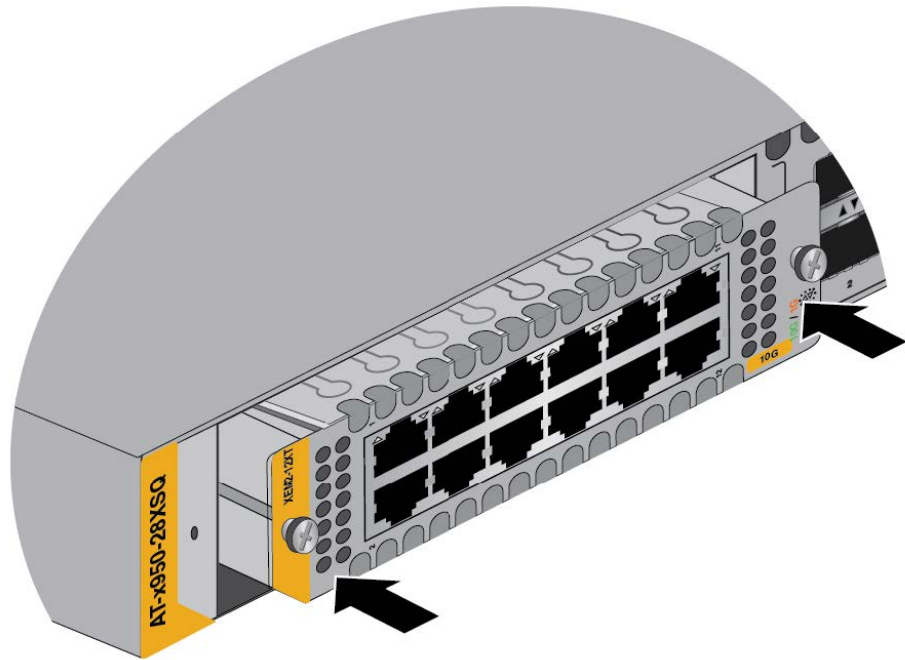

Figure 45. Seating the XEM2 Line Card in the Expansion Slot
4. When the line card makes contact with the internal connector in the switch, gently press on the sides of its faceplate to seat it on the connector. Refer to Figure 45.